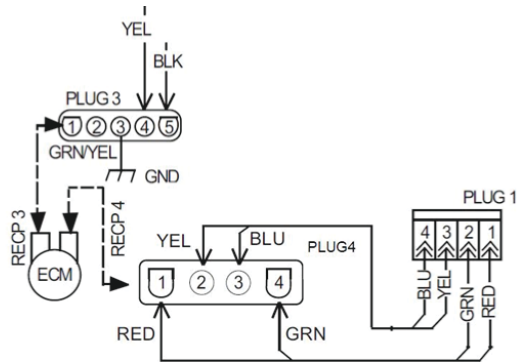

Fig. 14 – ECM / Plug Wiring Diagram
3. Disconnect Plug 1 from the board (Fig. 14).
1. If Fault Code 44 and the Motor LED are both flashing, place a DC voltmeter across terminals PL1-1 Red (+) to PL1-2 Green (-) (Fig. 14).